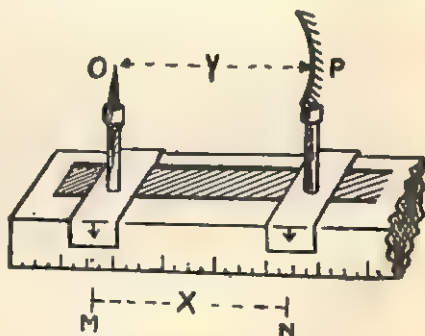

Fig. 11.10. Determination of Bench correction.
**8. Determination of Index Correction.** To determine the *Index Correction* for  $u$  and  $v$ , a *sharp ended straight knitting needle* is used. The knitting needle is adjusted such that its one end touches the pole (P) of the mirror on the reflecting surface. Now the image or the object needle (O) is brought near the other end of the knitting needle and then adjusted in such a way that the tip of the two coincide as shown in Fig. 11.10.